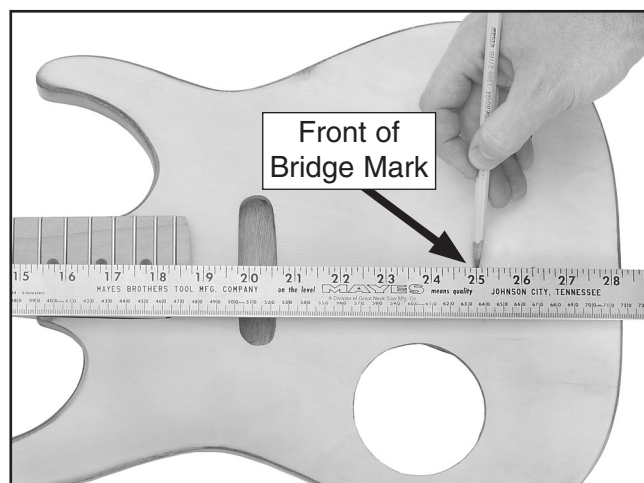

Figure 4. Marking front of bridge.
7. Measure 25⅛" from the fretboard side of the nut to the right side of the body and draw a vertical line as shown in **Figure 4**. This line will mark the neck-facing edge of the bridge.